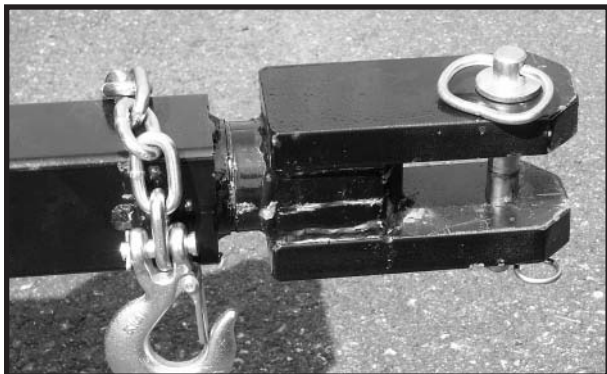

Figure 8-1
1. Fasten the spreader hitch to the drawbar with a 1" diameter hitch pin that cannot bounce out, Figure 8-1. Attach hitch safety chains to tractor.